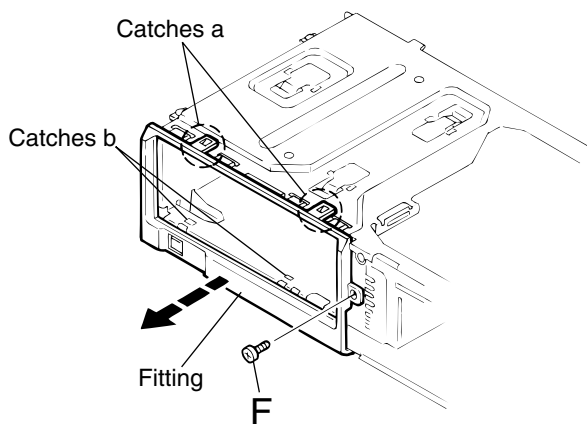

Fig. 10
■ Removing the fittings (See Fig.10)